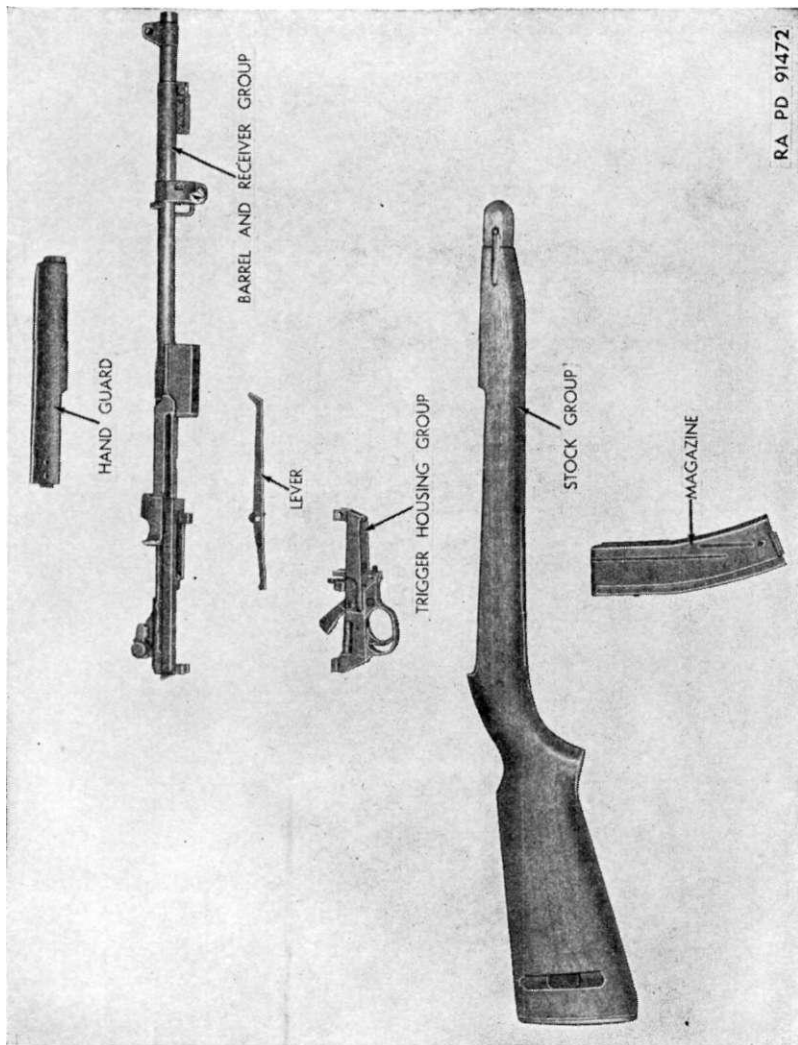

Figure 17. Groups dismantled showing relative positions.
b. For convenience and clarity, the main groups (fig. 17) of the carbine and the accessories, are covered in separate sections of the manual.